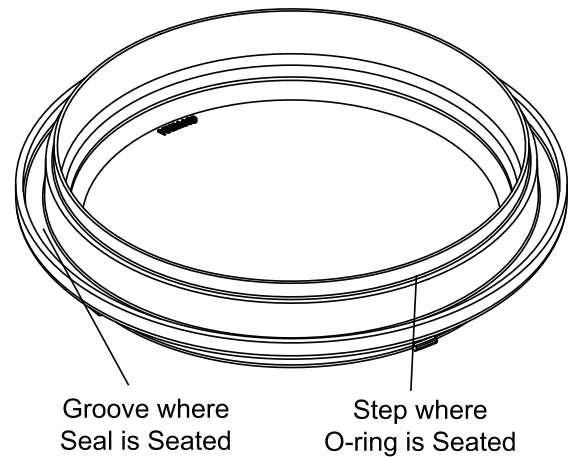

Figure 7: Placement of Blue Pressure Test O-ring
2. Place the blue pressure test o-ring on the step located ¼" from the bottom of the lid. See Figure 7.
NOTE The blue pressure test o-ring sits approximately ¼" away from the seal. See Figure 7.